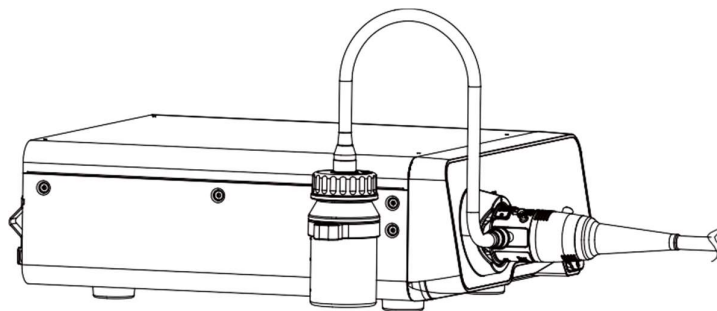

Figure 3-4 Pipe Connection
2. Connect the water bottle to the endoscope firmly, as shown in Figure 3-4.